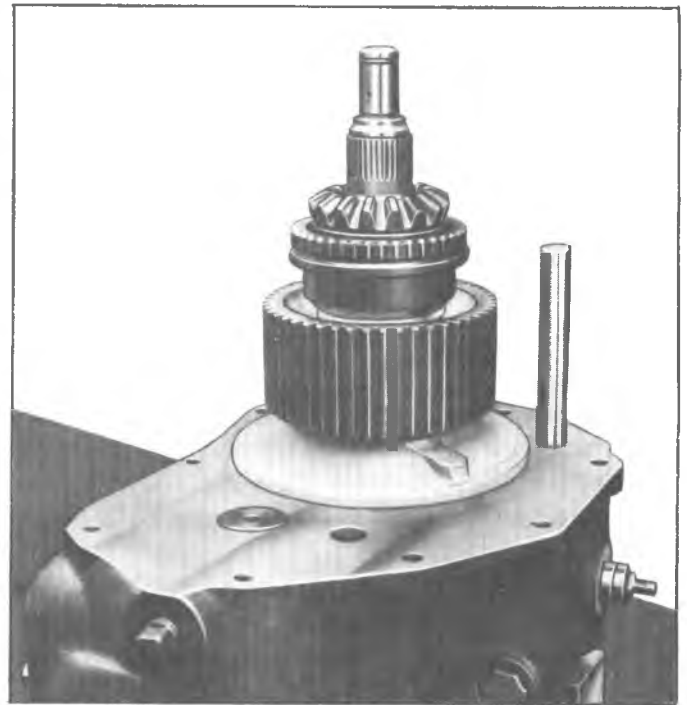

Fig. 21F—Drive Gear and Lockout Clutch Assembly Installed
5. Connect lockout clutch shift rail to the connector link and position rail in housing bore (fig. 21F). Rotate shifter shaft lowering shift rail into the housing, to prevent the link and rail from being disconnected.